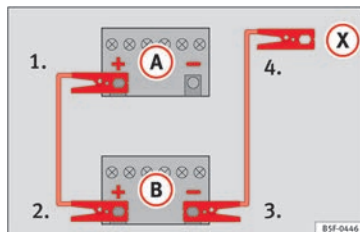

Fig. 79 Diagram of connections for vehicles without Start Stop system
2. Connect one end of the **red** jump lead to the positive **+** terminal of the vehicle with the flat battery **(A)** » **Fig. 79**.
- 4a. *For vehicles without Start-Stop system:* connect one end of the **black** jump lead to the negative terminal **-** of the vehicle providing the current **(B)** » **Fig. 79**.